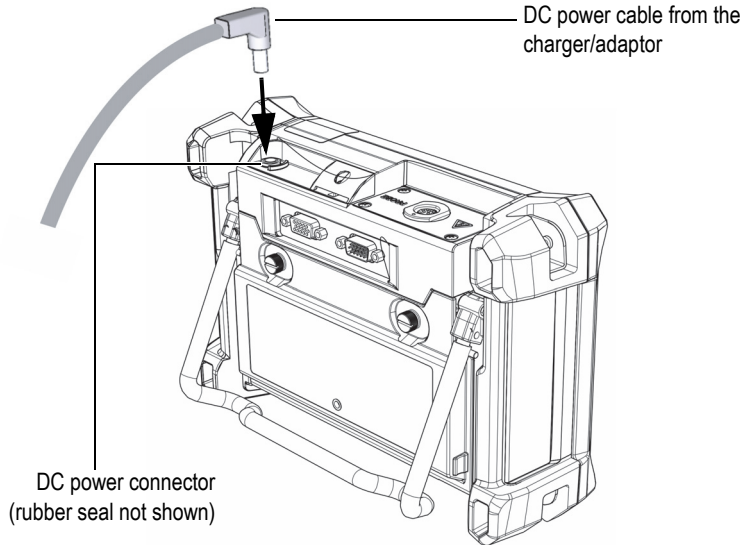

Figure 2-8 Connecting the DC power cable
3. Connect the DC output power cable from the charger/adaptor to the DC power connector on top of the BondMaster 600 (see Figure 2-8 on page 39).